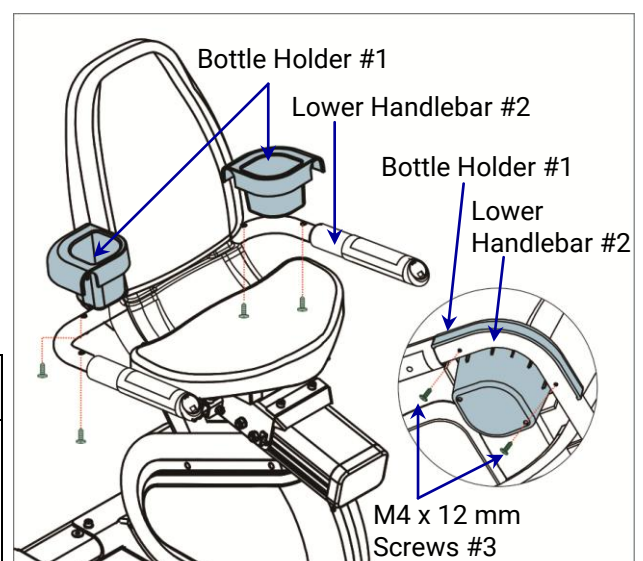

Fig 2.5-15
Attach the **Bottle Holder #1** to the **Lower Handlebar #2** using (4) **M4 x 12 mm Screws #3** with the provided 5mm Allen Wrench. (Fig 2.5-15)